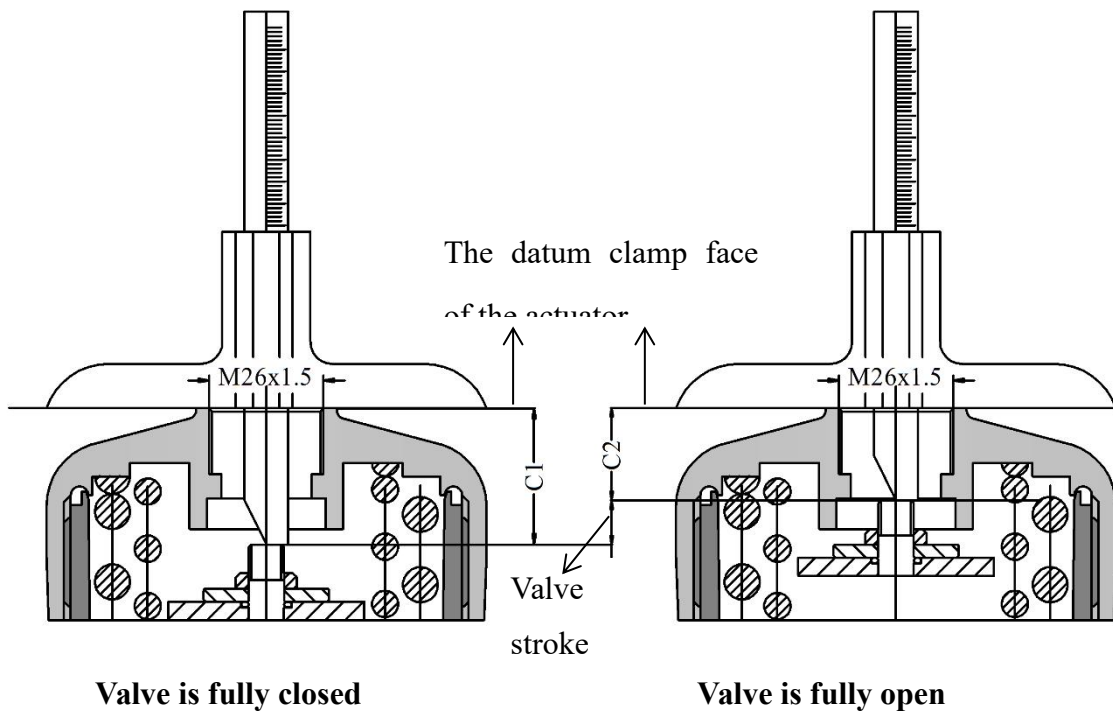

Figure 38. C1 value and C2 value measurement
①	Sensor	1	Feedback the valve opening position
②	Mounting plate	1	Connect the positioner and the actuator
③	O-ring	2	$\Phi 20 \times 2$
④	Fastener	2	Fix the mounting plate, G1/4 Thread
⑤	M8 hexagon head bolts	4	M8×16
⑥	Sensor connector	1	Connect the sensor to the positioner
- Separately measure the C1 value when the valve is fully closed and C2 value when the valve is fully open by **the depth ruler**. The values are the distance between the stem top and the datum clamp face of the actuator. As shown in Figure 38.